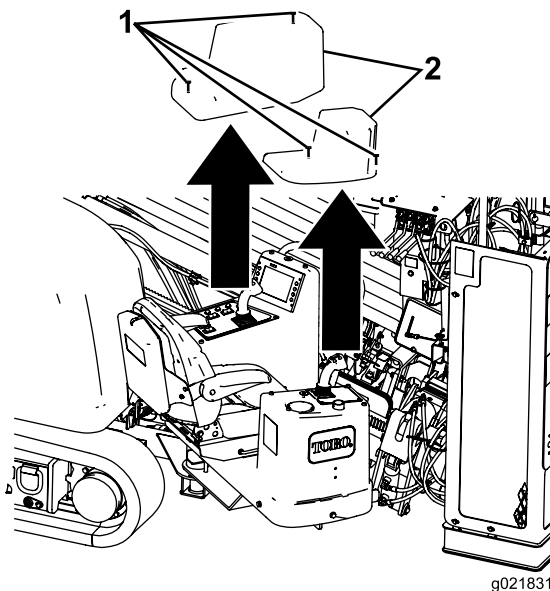

Figure 75
3. Loosen the 4 screws that secure the covers over the operator consoles and remove the covers (Figure 75).